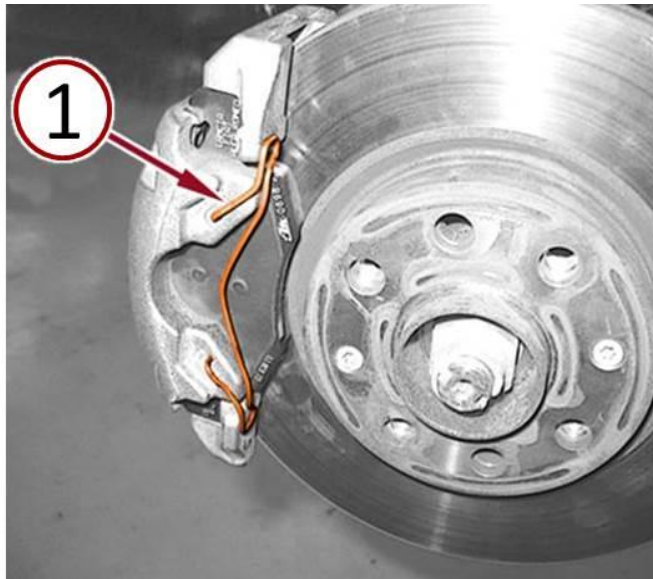

Fig. 1 Remove Brake Caliper Retainer Spring
3. Remove and discard the brake caliper retainer spring (1) (Fig. 1).